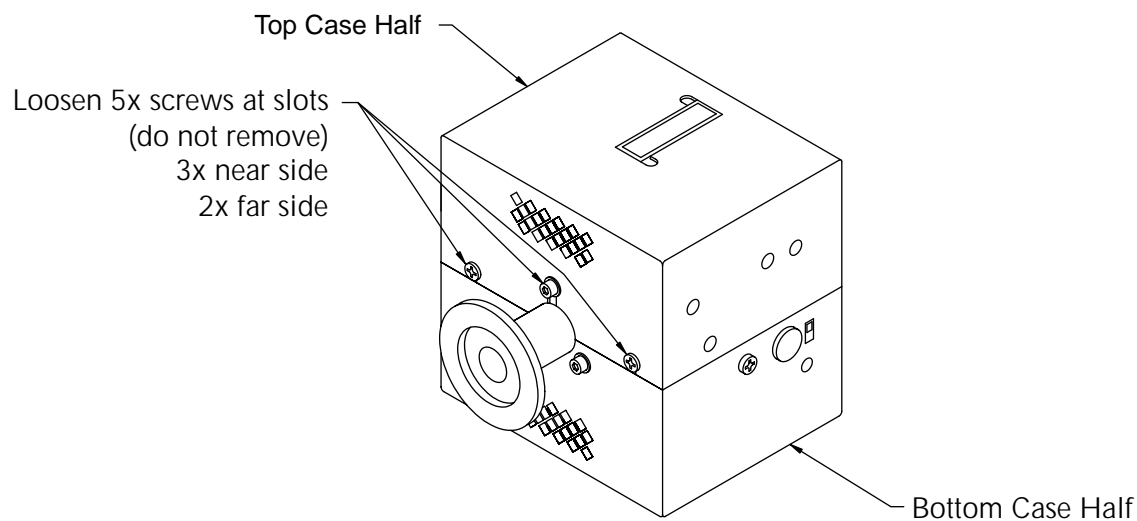

Figure 1 Loosening 5x #4 PHMS from Front and Rear of Case
1. Loosen 5x #4 PHMS from front and rear of case (Figure 1).